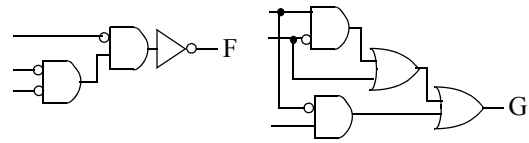

Figure 2.82
2.53 *Figure 2.82 shows two circuits whose inputs are unlabeled.